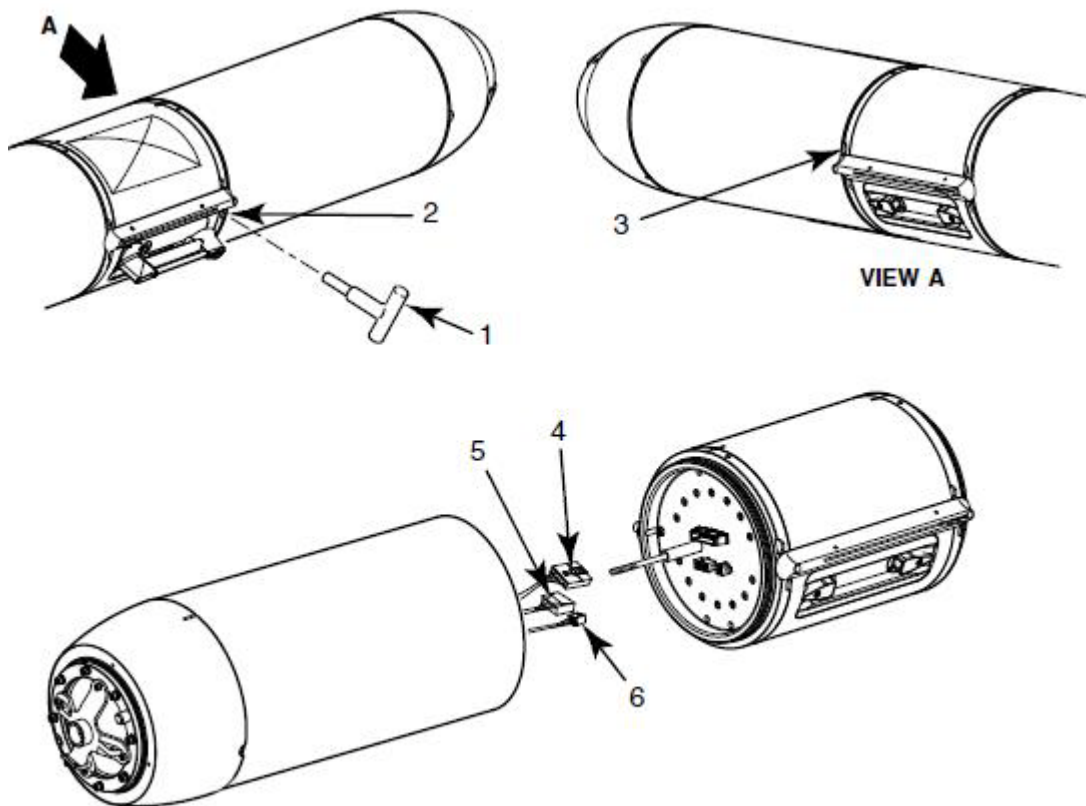

Figure 2-2 Forward assembly (200/1000M).
1. Using the hull separation tool (Figure 2-2, Item 1) at locations 2 and 3 in Figure 2-2, disengage the forward hull section from the payload bay.
2. Disconnect the connectors (Figure 2-2, Items 4-6) from the payload bay.
2. Connect the connectors (Figure 2-2, Items 4-6) from the forward assembly to the payload bay.